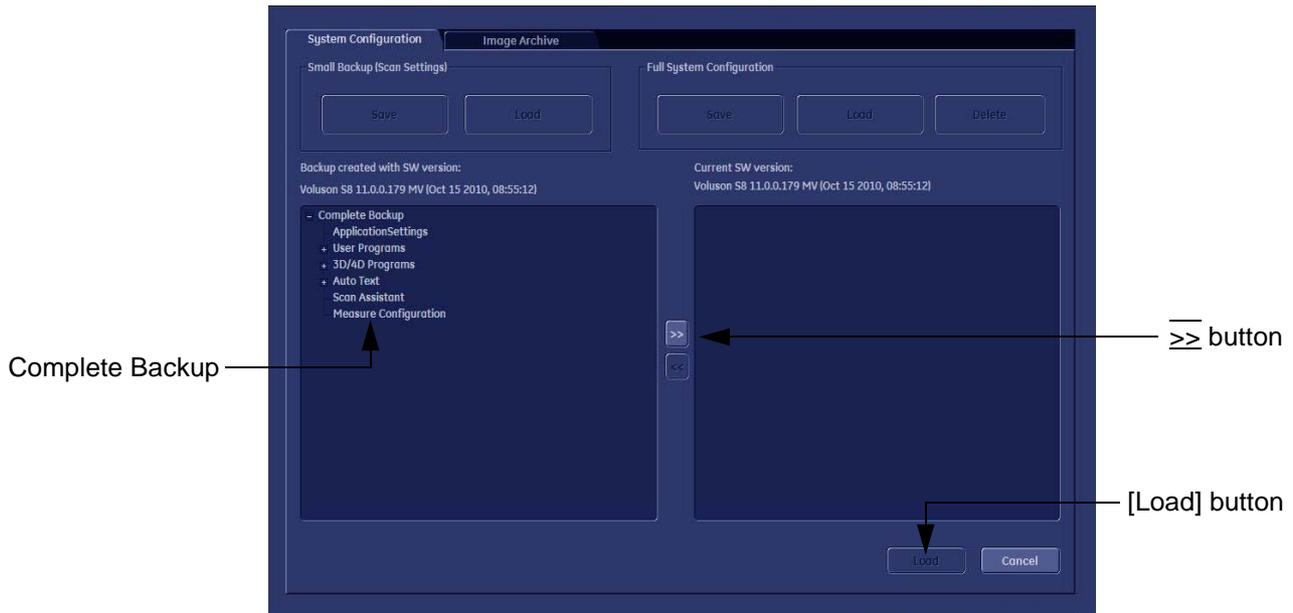

Figure 4-22 Load Backup Data
- 2.) Select the “**Complete Backup**” (marked blue; see: Figure 4-22 below) and click the \gg button to copy the Complete Backup into the Load Data field.